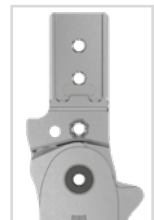

fig. 9
- 6 Mount the system stirrup (fig. 9).